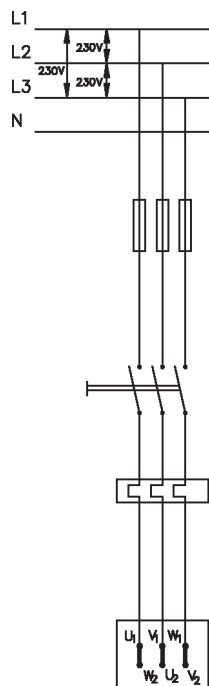
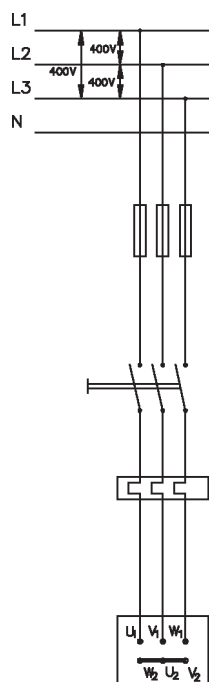
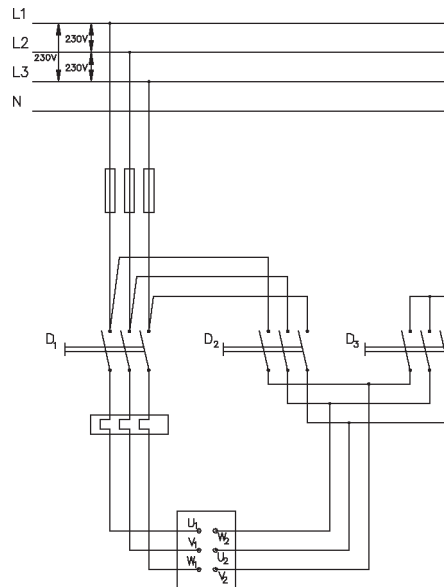

Figure 7:
Figure 8:
Figure 9:
- 230/400 V : These motors can be connected in a circuit of 230 V between the phases. The windings are then in a delta configuration (see figure 7). In a circuit with 400 V between the phases, the windings are in a star configuration (see figure 8).
- 400 V $\Delta$  : In a circuit with 400 V between the phases, these motors are connected in a delta configuration (figure 8). Remark: Motors with a power of 3 kW and higher are usually not connected directly in delta configuration (the initial current rises to too high a value immediately during start-up. The motor starts, connected in star configuration (see figure 9: switches D1 and D3 closed) and then after a few seconds as the motor comes up to speed is switched to delta configuration (switches D1 and D2 closed and D3 open). This is achieved in a star-delta connection.